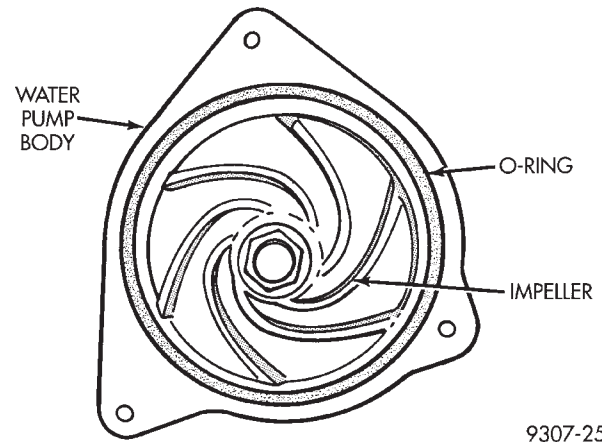

Fig. 4 Water Pump Body—3.5L Engine
The 3.5L pump bolts directly to the engine block, using a O-ring gasket for pump to block sealing (Fig. 4). The pump is serviced as a unit.
- (1) Clean all O-ring surfaces on pump and block.
- (2) Install new O-ring on water pump (Fig. 4). Wet the O-ring with water to facilitate assembly.